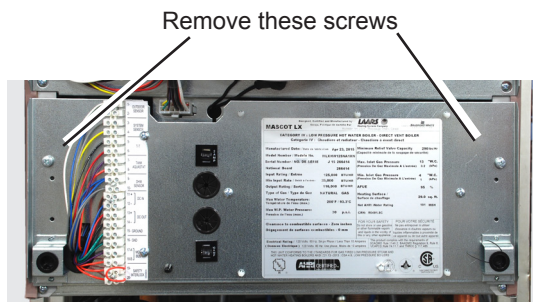

Fig. B30-1 - Opening the Lower Front Panel
4. Remove the two screws shown in Fig. B30-1.